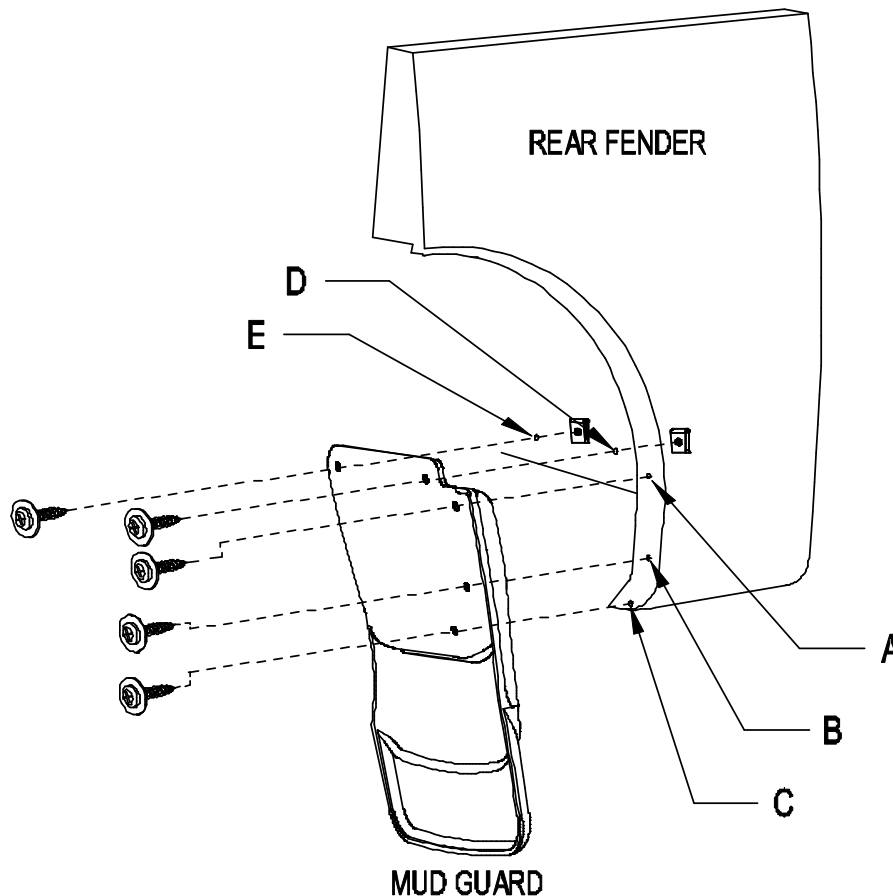

Figure 1
2. Using mud guard as a template, mark, center punch, and drill 1/8" hole at location A, B, and C (Figure 1).